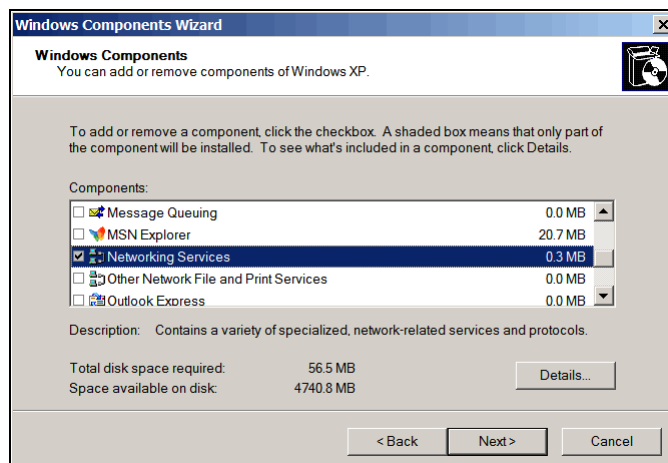

Figure 36 Windows Components Wizard
4. Select the **Networking Services** item, and then select the **Details** button (Figure 36).